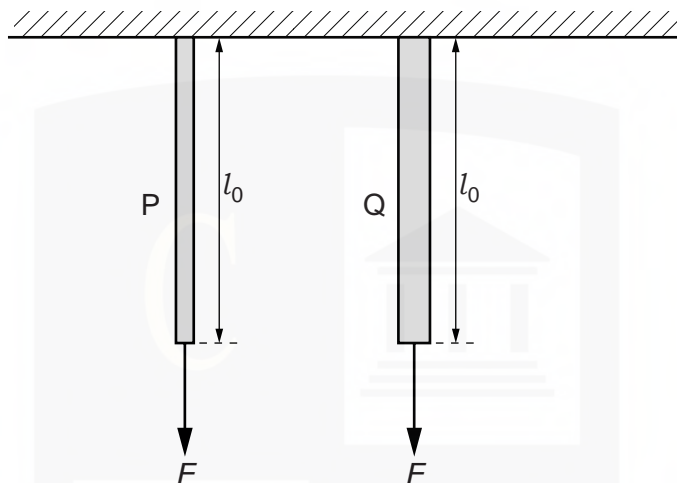

Fig. 5.1 (not to scale)
- (b) Two wires P and Q of the same material and same original length l_0 are fixed so that they hang vertically, as shown in Fig. 5.1.